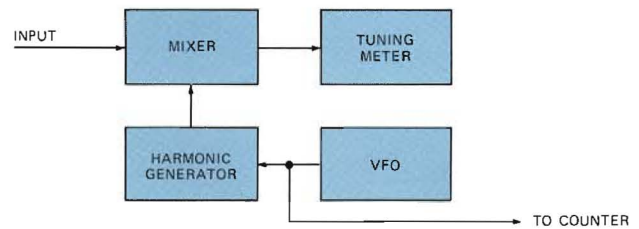

Fig. 13. Manual transfer oscillator counter measures its own oscillator frequency which is harmonically related to the input signal.
The manual transfer oscillator counter (TO) is somewhat like the heterodyne converter counter in that two signals are compared. But unlike the heterodyne unit with its fixed reference frequency, the transfer oscillator counter uses a variable frequency oscillator (VFO). The VFO frequency is harmonically related to the input signal being measured. In operation, the counter VFO frequency is counted, rather than the input signal's frequency. The correct VFO harmonic is determined by tuning the VFO and noting a zero beat in the meter stage shown in Figure 13. The counter readout is multiplied by the correct harmonic number to indicate the input signal frequency.